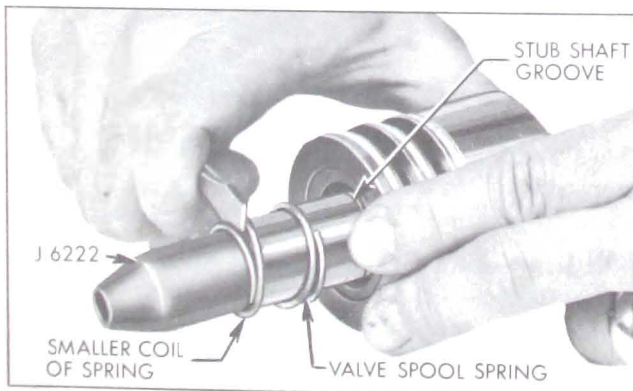

Figure 8-40—Installing Valve Spool Spring
5. Place seal protector J-6222 over stub shaft and slide valve spool spring over stub shaft with smaller diameter coil going over end of shaft last. See Figure 8-40. Work spring on shaft with a small screwdriver until small coil of spring is seated in the stub shaft groove. Be careful not to damage surface of shaft.